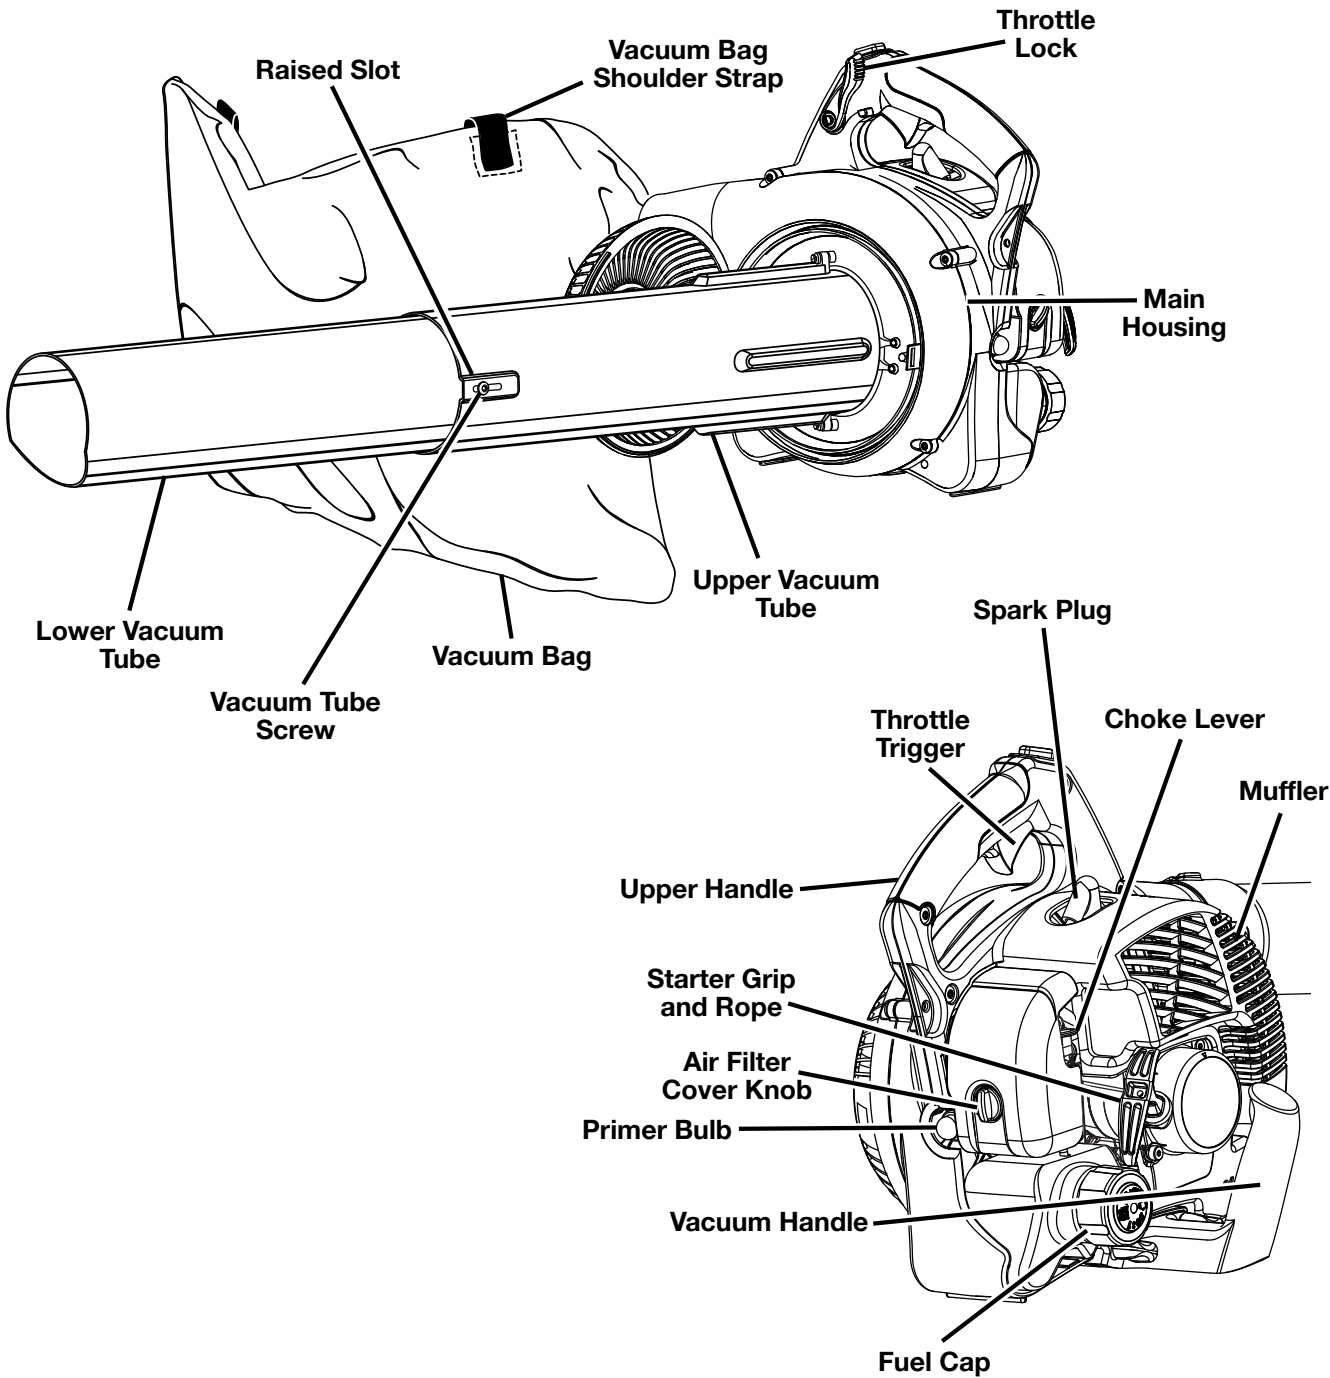

Figure 1
See Figures 1 - 2.
2. Tap tube assembly on ground until the screw holes in lower tube are in the raised slot of the upper tube. Secure with supplied screws. *See figure 1.*